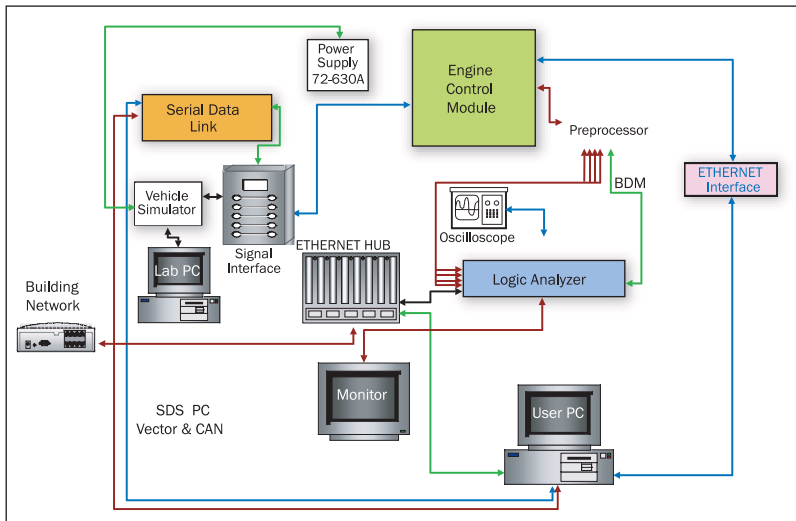

Figure 3. General Motor's testing environment. Courtesy of General Motors.
suppliers. This provides standardized communications even though GM has more than one module supplier. ETAS' INCA is used as the instrumentation software for calibration. Other bench development hardware comes from the ETAS tool chain for consistency. These tools provide the foundation for GM's testing environment as shown in Figure 3.
In the test environment, the engineers who create the algorithms and the software need to look at the controller and observe its operation from a byte-by-byte execution viewpoint. They must verify: (1) that code works properly, (2) that controller input is read correctly, and (3) that the output changes occur as required. Bench analysis using the logic analyzer allows them to observe the execution of the C code in real time. GM has a group of software testing engineers that start testing at the unit level, the most elemental functions, to verify that the combination of inputs is causing the output to occur as desired. The oscilloscope in Figure 3 provides the hardware signals to observe the electrical pulses in the system. The Ethernet hub allows engineers to get the data from a server network and run the tests from their desk or at the bench location.
This existing process, shown in Figure 3, is a global process with the same tool chain for a global family of controllers that GM is rolling out for Europe and Asia. The upper left corner shows the signal interface. The vehicle simulator is the hardware in the loop (HIL) portion. The simulation makes a bench controller think it is connected to an actual transmission. Plant modeling engineers create the algorithms to simulate engines and transmissions and their various subsystems such as ignition, and fuel delivery so the HIL appears as real units for bench analysis. Bogden said this is the first crude step toward math-based modeling. With the original HIL, design engineers could never calibrate a real engine or transmission from the HIL because the models did not contain sufficient detail.